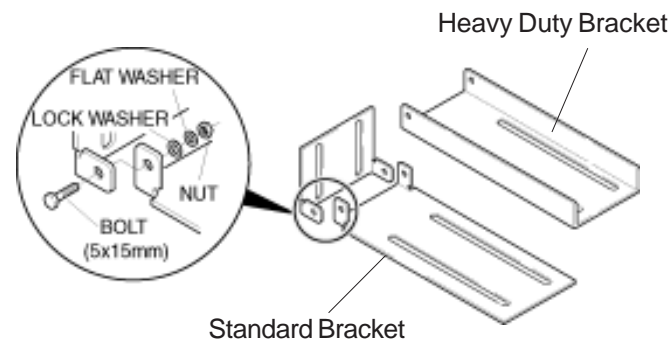

Figure 1. "L" Bracket Assembly
2. Select and assemble the adjustable "L" Bracket that fits your specific needs. (See Fig. 1) Standard Bracket - recommended for rear deck and light bar mounting. Heavy Duty Bracket - for use when Traffic Master will be subject to high wind, vibration, and/or severe stress.